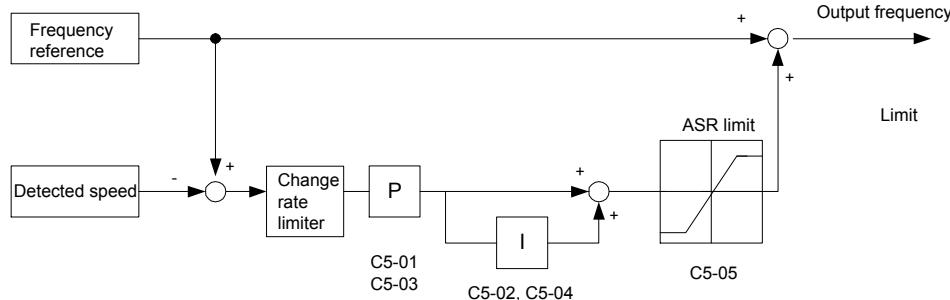
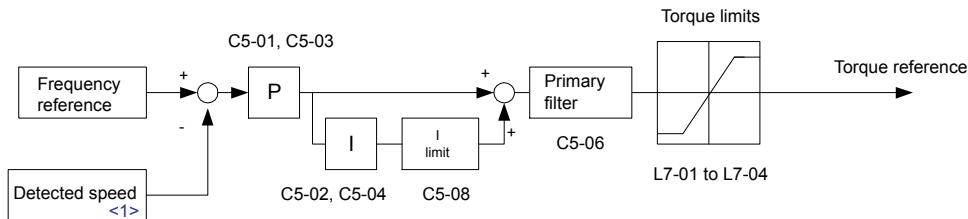

Figure 5.37 Speed Control Block Diagram for V/f Control with PG
Figure 5.38 Speed Control Block Diagram for CLV, AOLV/PM and CLV/PM
**Figure 5.37** and **Figure 5.38** illustrate ASR functionality: